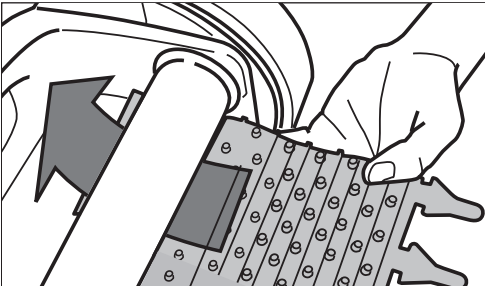

Figure 17. Position the New Brush on Roller
3. Position the new brush mat underneath the roller with the bristles facing downwards (Figure 17).